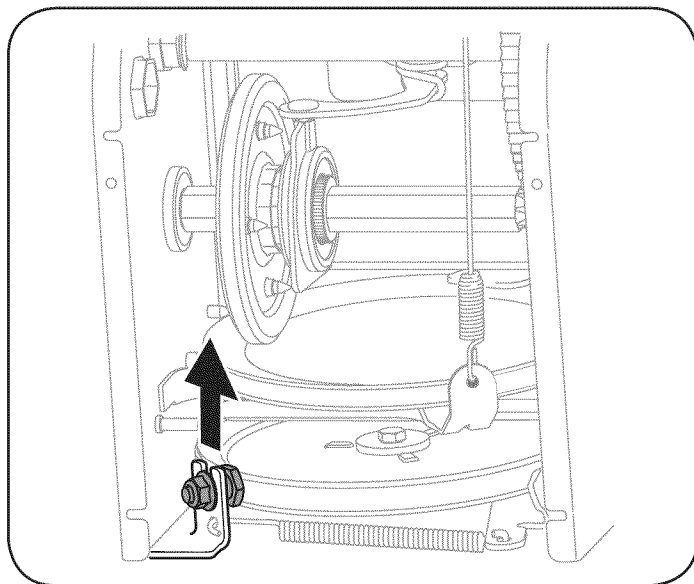

Figure 32
7. Loosen and remove the shoulder screw which acts as a belt keeper. Refer to Figure 32.